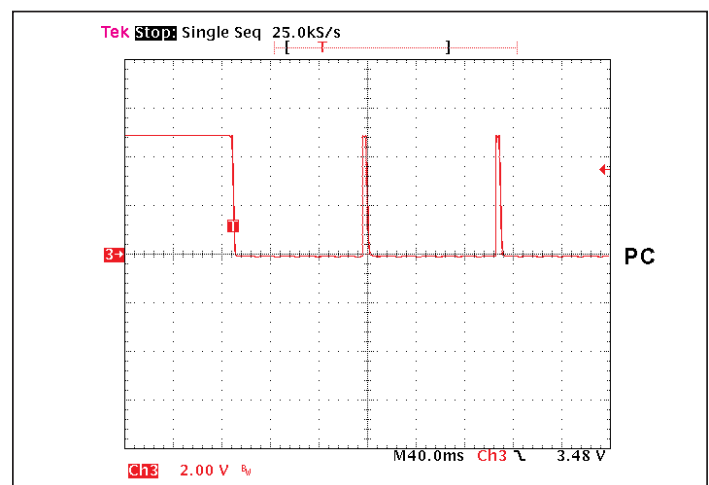

Figure 14— PC signal during fault
**Alarm** – The VTM contains watchdog circuitry that monitors output overload, input over voltage, input under voltage, or excessive internal temperature. In response to any of these abnormal conditions the PC port will toggle as shown in Figure 14.